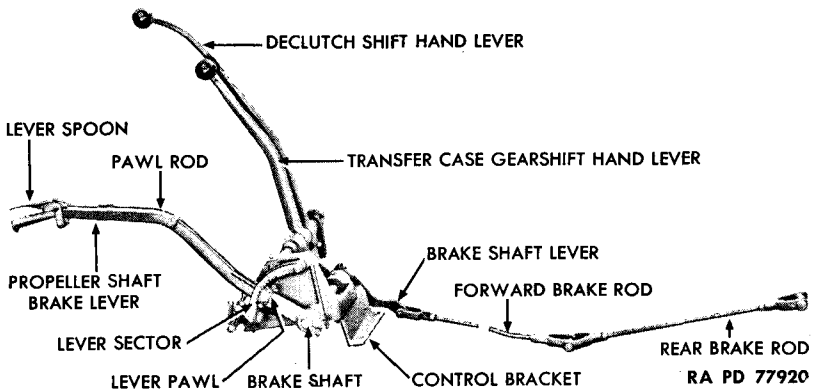

Figure 79 - Propeller Shaft Brake Lever and Linkage
a. **Description** (fig. 79). The lever is located in cab beside operator's seat. It consists of a solid bar which pivots on a shaft beneath the floor board, and is held in position by a lever spoon, pawl rod, and lever pawl which engages with a lever sector.
b. **Removal** (fig. 79). Loosen cap screw which clamps brake lever to brake shaft. Remove the two cap screws and lock washers which secure lever sector to control bracket. Remove lever, pawl rod, and lever sector as a unit, and remove Woodruff key from shaft.
c. **Installation** (fig. 79). Insert Woodruff key in brake shaft, and position brake lever on brake shaft and lever sector to control bracket. Install two cap screws and lock washers which secure lever sector to bracket, and tighten cap screw which secures lever to brake shaft.
a. **Description** (fig. 79). The linkage consists of two brake rods, one located between brake shaft lever and brake transfer lever and one between brake transfer lever and disk brake cross shaft brake lever. Action of the brake lever is transmitted through the brake rods to brake shoes. **CAUTION:** *Although linkage is adjustable, it must not be used as a method for adjusting brake.*
b. **Removal** (fig. 79). Remove the cotter pin and clevis pin from each end of both rods, and remove rods. Loosen cap screws which secure transfer lever, the four clevis levers, and the shaft lever, and remove levers.
c. **Installation** (fig. 79). Position levers on respective shafts, and tighten cap screws which secures each. Position rods between brake shaft, brake transfer shaft, and brake cross shaft; install clevis pin and cotter pin at both ends of each.